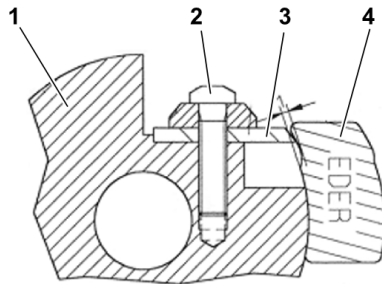

Fig. 3: Replacing knives on the carving cutter
- > Loosen the knife screw (2 - Fig. 3) slightly.
- > Place the knife gauge (4 - Fig. 3) on the milling head (1 - Fig. 3) and slide the knife (3 - Fig. 3) against the gauge until it touches the notched area.